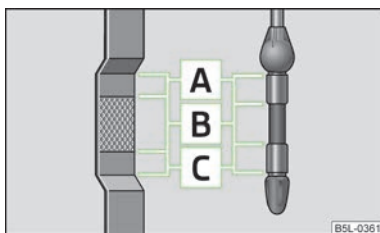

Fig. 119
The dipstick indicates the level of oil in the engine » Fig. 119.
- The oil level must on no account extend beyond the range **A** » Fig. 119. Risk of damaging the exhaust system!